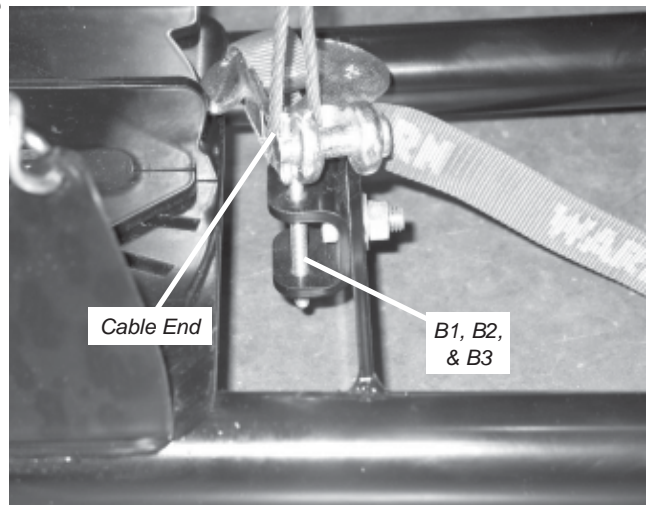

Figure 2 J-bolt and Winch Cable
2. Run the winch cable over the roller fairlead and down to the J-bolt bracket (A1). Using a 1/4" dia J-bolt (B1), hook the loop on the end of the winch cable and slide the threaded end of the J-bolt through the round holes in the J-bolt bracket. The hook end of the J-bolt should slide into the slotted hole in the J-bolt bracket. Terminate the end of the J-bolt with a 1/4" dia flat washer (B2) and 1/4" dia nylock nut (B3). Tighten the nut until the winch cable is snug inside the J-bolt as shown in figure 2.